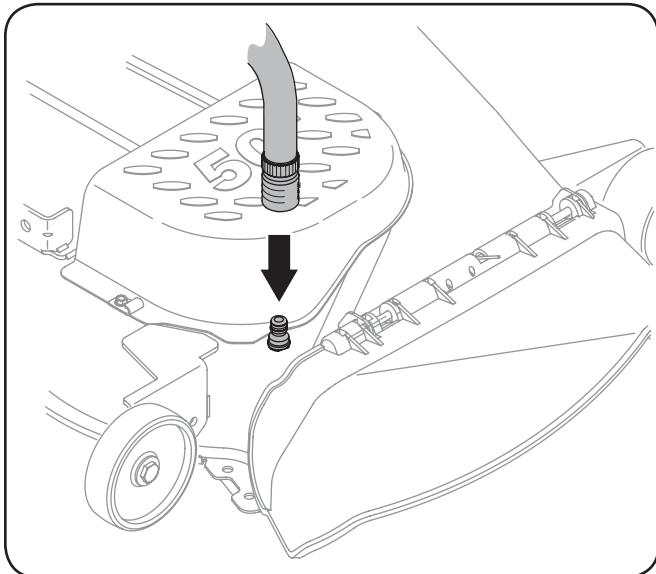

Figure 6-2
4. Attach the hose coupler to the water port on your decks surface. See Fig. 6-2.